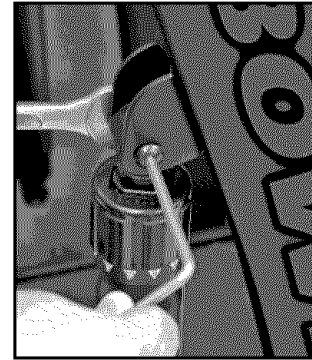

Figure 10-1
10-1 First bolt the dial end of the cylinders to the uprights using (1) 5/16" x 1-1/2" button head screw and (1) 5/16" acorn nut, per side. Tighten with the provided 9/16" open end wrench and 3/16" hex key (see Figure 10-1).